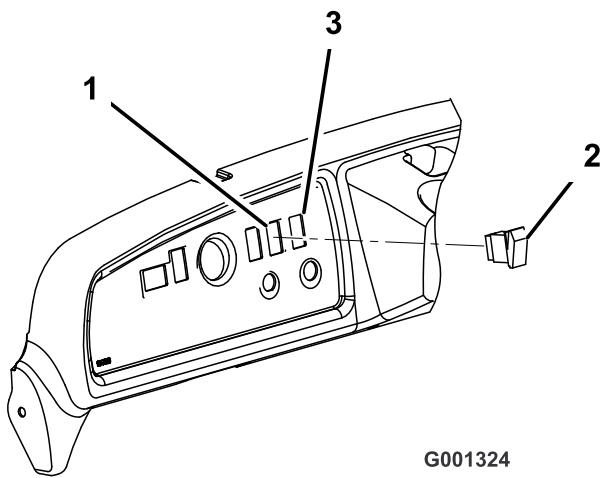

Figure 5
1. Remove the plug from the hole in the right side of the dash (Figure 5).
2. Plug the switch into the harness connector in the dash. Insert the switch into the hole in the dash (Figure 5).